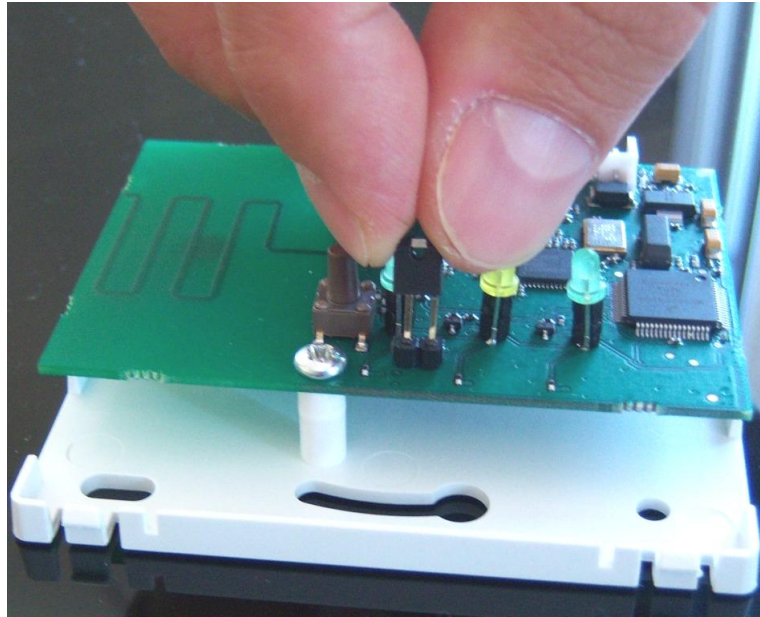

Figure 3-3
The installation of the jumpers is shown in Figure 3-3.
- 1. A necessary condition for the operation of the network is the affixing of the jumpers as shown in Figure 3-3 to the node connected to the master device.**